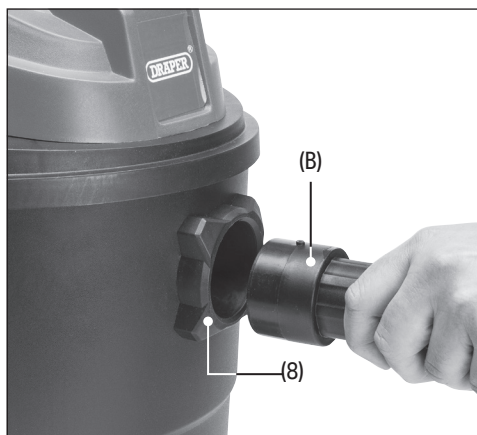

Fig. 3
- **Cloth filter (G)** and paper dustbag (I) for dry vacuuming (refer to **Section 8.1**).
- **Foam filter (F)** for wet vacuuming only (refer to **Section 8.2**).
3. Refit the motor housing (4) and secure using the two retaining clips (5).
4. Push the flexible hose (B) into the port (8), align the notch with the arrow on the port housing. Then turn anticlockwise to lock in place. (Fig. 3).